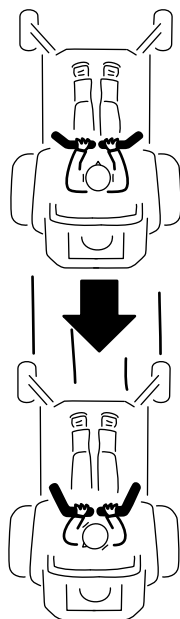

Figure 22
2. To go backward, slowly pull the motion-control levers rearward (Figure 22).